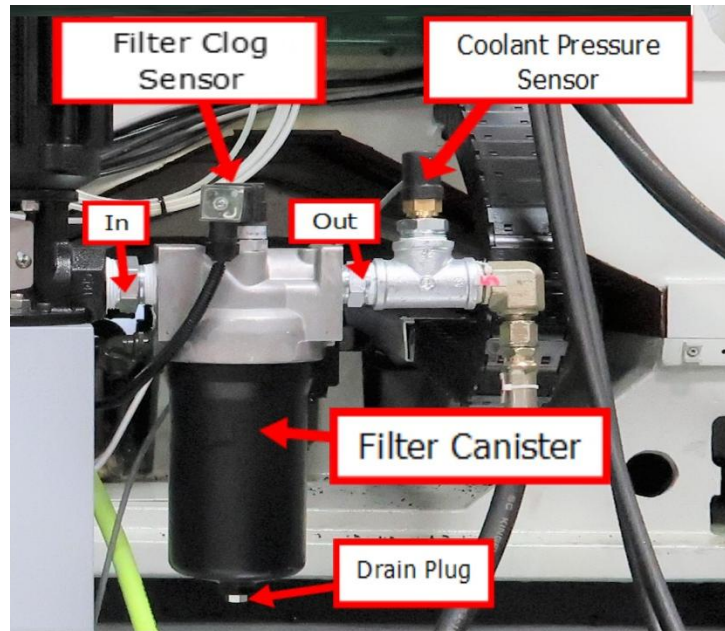

Figure 7.1 – Coolant Filter and Sensors
CTS option has two sensors and a filter which could need service. Most likely item to service is the filter element. See figure 7.1 for the location of the Filter Clog Sensor, Coolant Pressure Sensor, and the Filter canister.
Steps needed for the replacement of the filter see figure 7.1 for its location:
3. Drain the filter canister by removing the drain plug. See figure 7.1
Steps needed for the replacement of the sensor see figure 7.1 for location:
Steps needed for the replacement and calibration of the sensor see figure 7.1 for location: